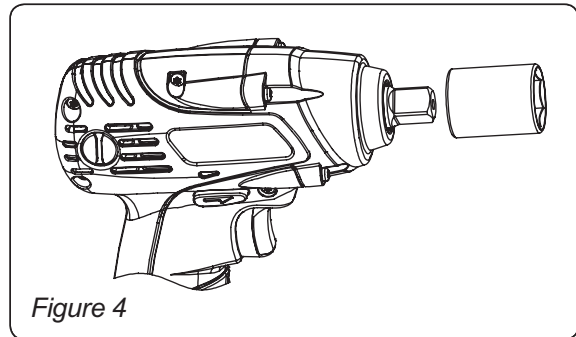

Figure 4
1. Align the hole in the side of the socket; put it onto the anvil of the tool until it locks into place. (Fig. 4)